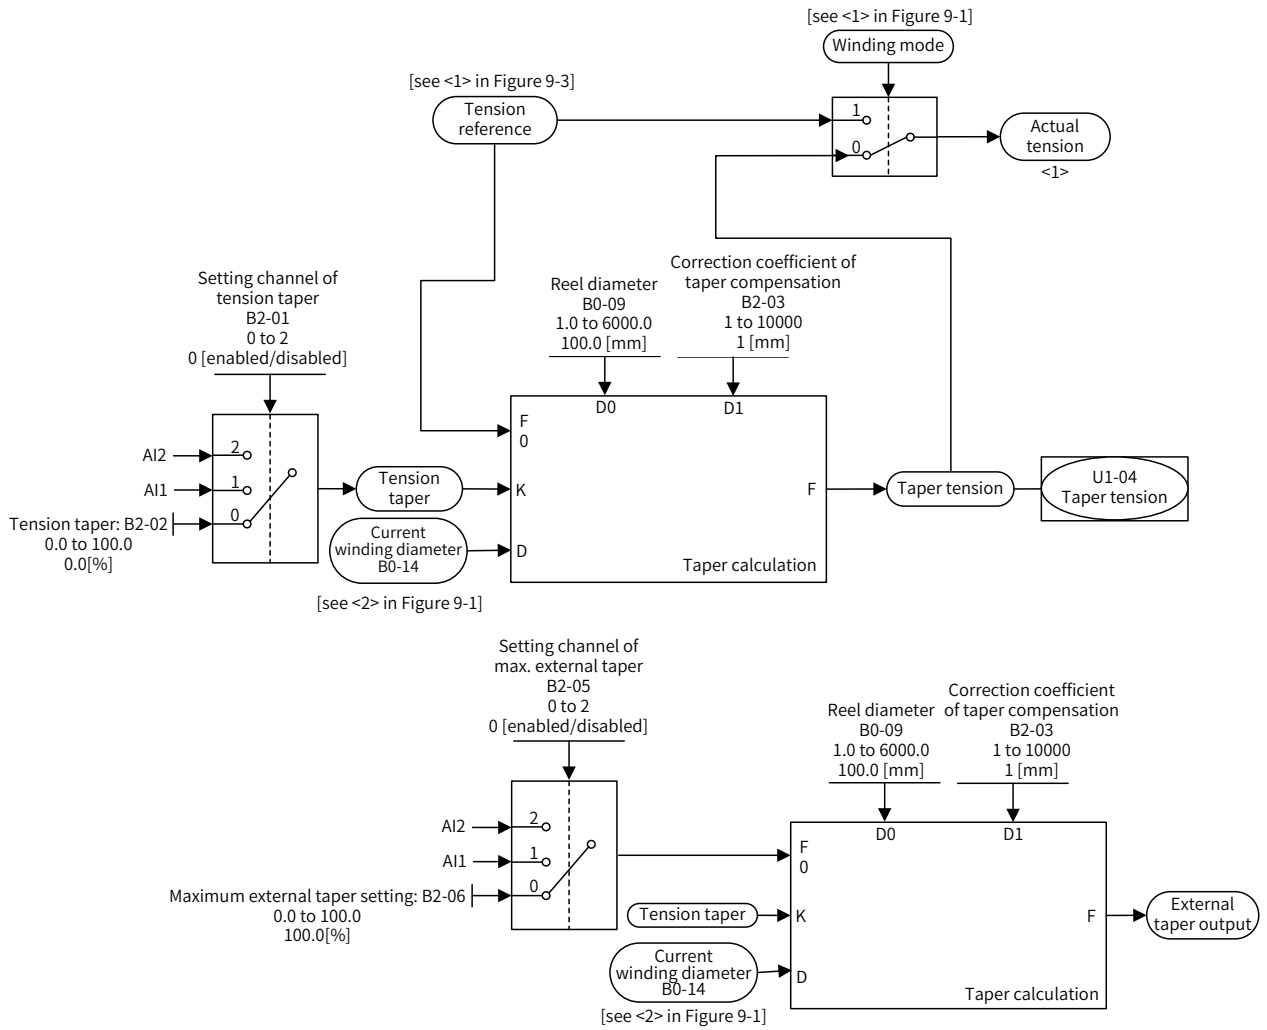
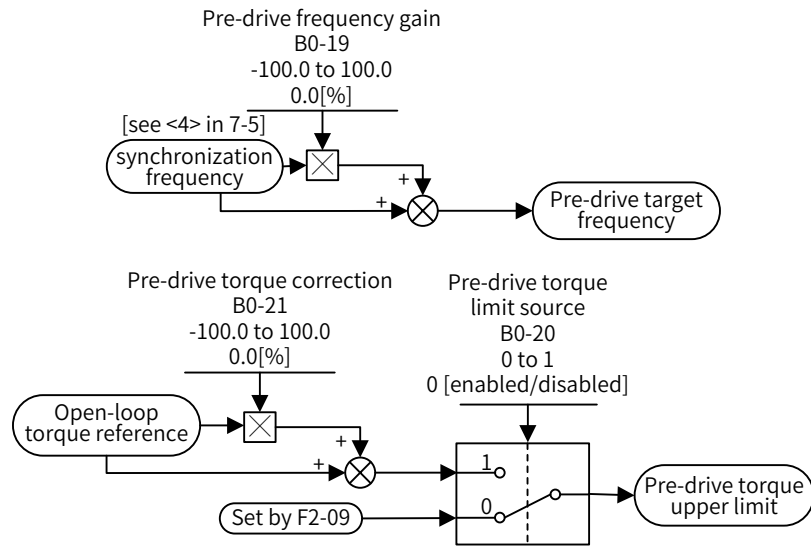

Figure 8-8 Taper function
Figure 8-9 Pre-drive function
5) Additional functions: For details of external taper and pre-drive output, see "Figure 8-8 Taper function" and "Figure 8-9 Pre-drive function".